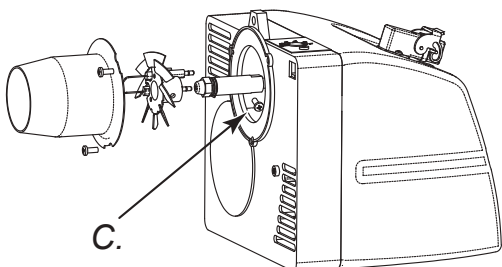

Figure 13 - Disassembly group diskflame-electrodes
- Remove the screw (C Fig. 13) that holds the group diskflame-electrodes and pull out the nozzle holder (F Fig. 14).